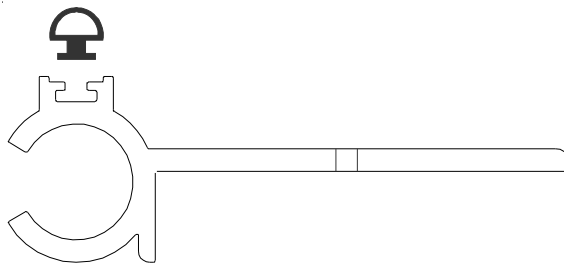

Figure 4
**STEP 3.** If the V3R gaskets were not installed into the base members at the factory, install the V3R into the base members. Select a base member section and a V3R section, and insert the foot of the V3R into the base member's channel and slide the V3R into the channel (see Figure 4). Ensure that the V3R does not stretch during installation. Repeat this procedure for each base member section.